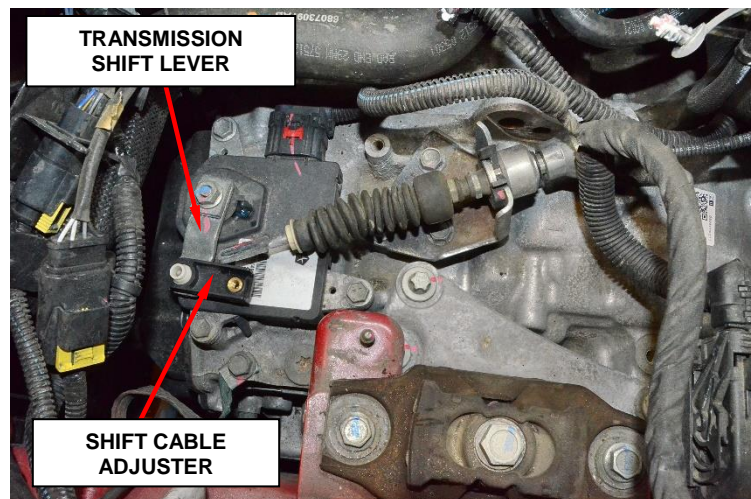

Figure 6 – Shift Cable Installed
19. Install the **NEW** shift cable adjuster on the transmission shift lever (Figure 6).